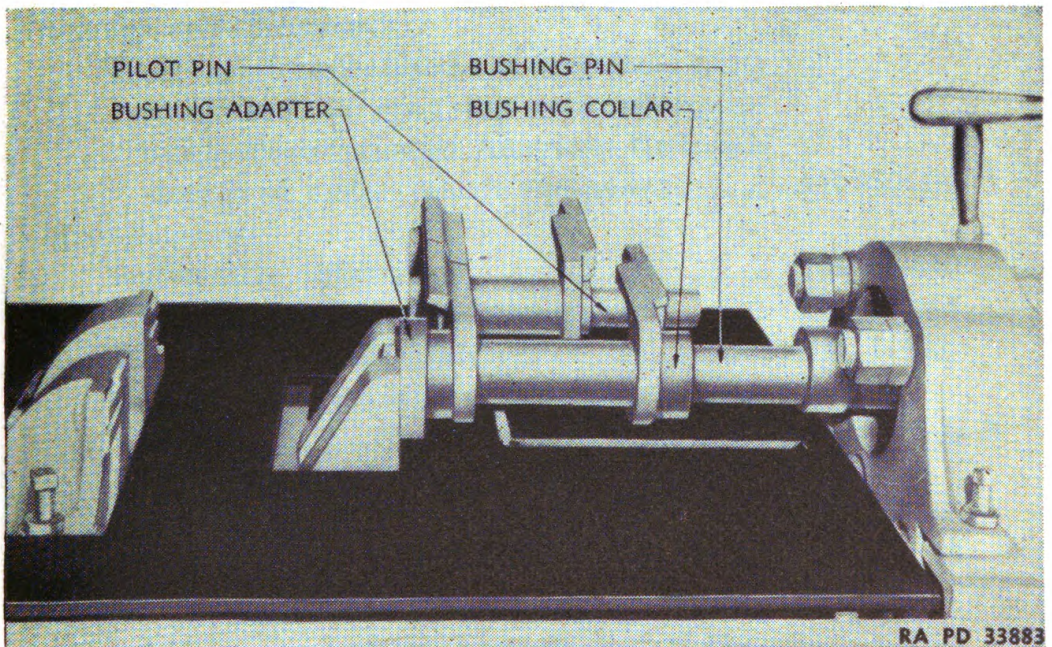

FIGURE 167.—Pressing bushing into position.
c. Place one of the next links in position with the counterbored portion on the bushing previously installed. With the pilot pin in place, press bushing in position using the bushing adapter, bushing assembly pin, and bushing collar (fig. 167). After the bushings are pressed into position, press in track pins.